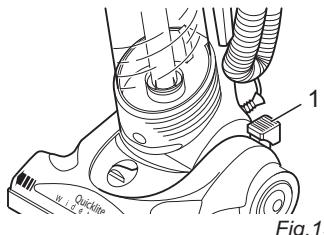

Fig.13
3. Operate the pedal switch (Fig. 13/1) to release the brushing foot. You can now move the handle backwards and forwards.